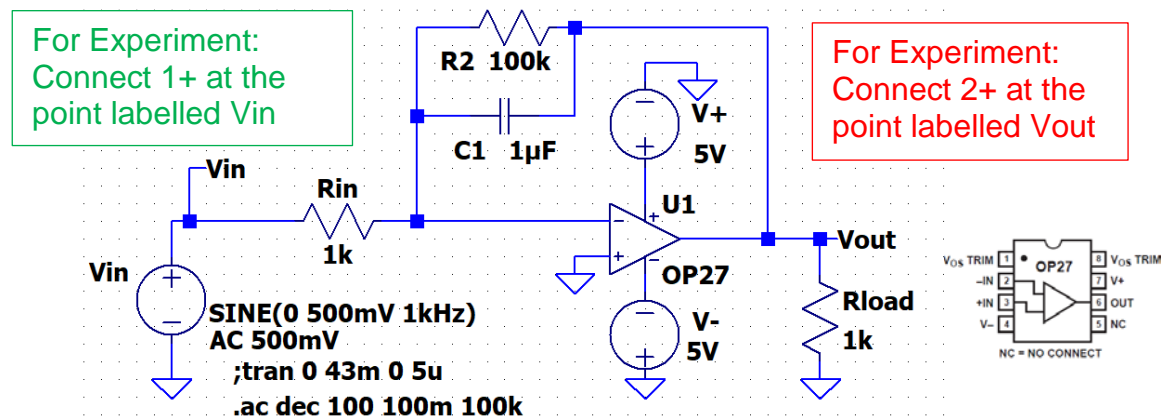

Figure C-3.
- In LTspice simulate the integration circuit shown below in Figure C-3. V1 should have a 500mV amplitude and 1kHz frequency.
- On your proto-board, build the op-amp integrator circuit as shown in Figure C-3 using the OP27 amplifier. Note that this circuit may not work with a uA741 op amp, R2 may need to be changed to a lower value.
- Obtain measurements of the input and output voltages at frequencies of 100Hz, 1kHz, and 5kHz. Add your experimental points for both the amplitude and phase to your *LTspice* AC analysis plot done for Figure C-3 simulation.